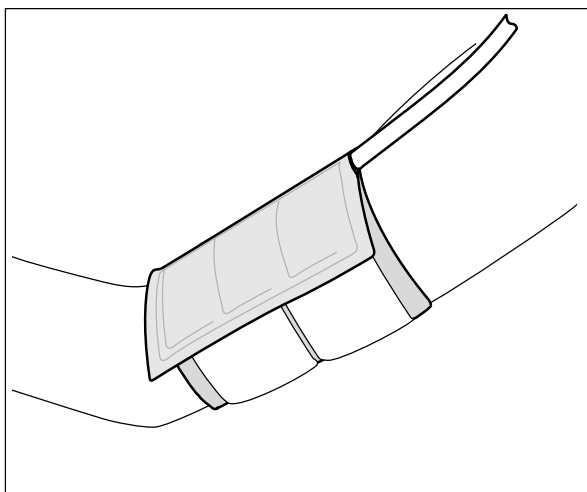

Fig. 4-1 Applying the cuff
- the cuff tubing points up toward the shoulder (Fig. 4-1)